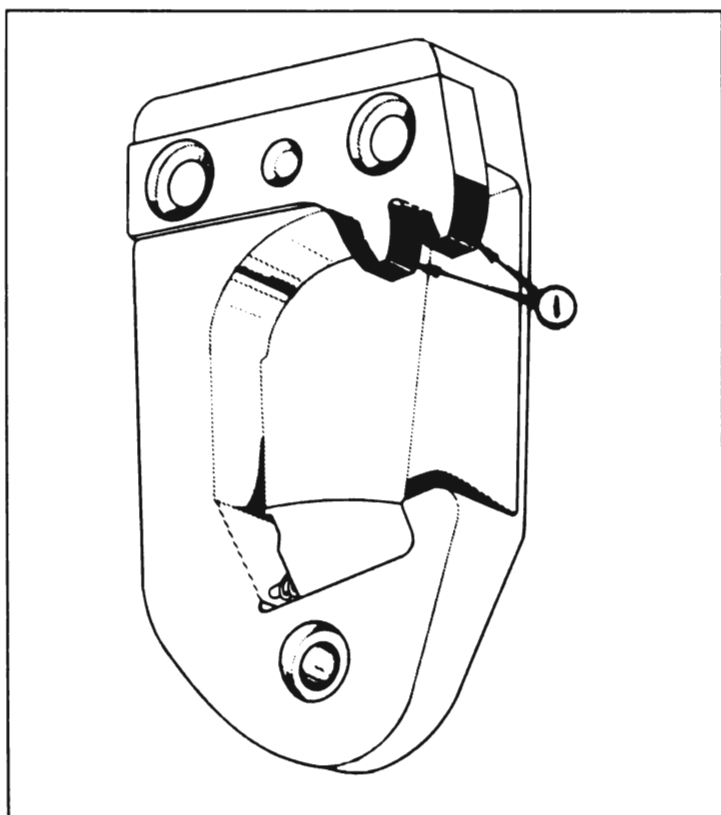

Figure 1-12—Lubrication of Door Lock Striker
13. *Door Lock Striker.* Wipe off dirt and apply a thin coat of stick type lubricant to top surface of lock bolt striker teeth indicated at "1" in figure 1-12. After lubrication close door several times and remove excess lubricant along the side edge of teeth.